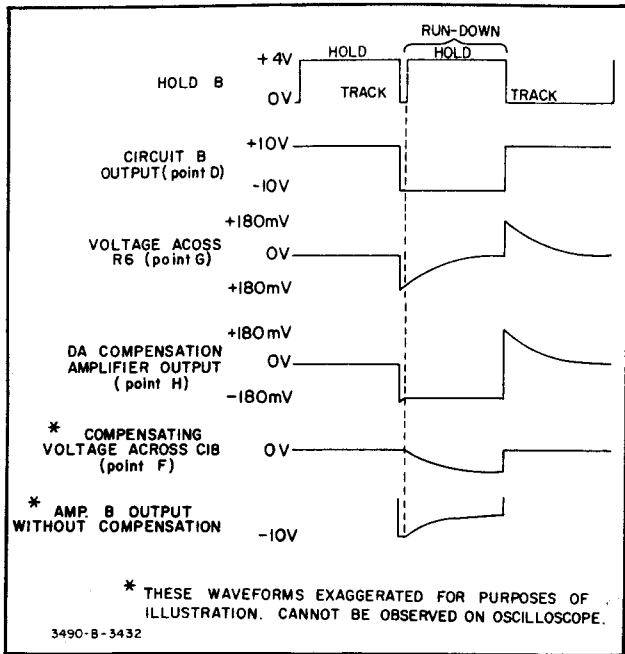

Figure 4-26. Dielectric Absorption Compensation.
4-225. Compensation for Dielectric Absorption. To prevent deterioration of the Sample/Hold output signal due to dielectric absorption, an amplifier circuit is used between the output of Circuit B and the non-inverting input to the integrator portion of this circuit (points D and F in Figure 4-25). The waveforms in Figure 4-26 help to illustrate the action of the Dielectric Absorption (DA) Compensation circuit. During the Track Mode, S5 and S6 (Figure 4-25) are closed. Any change in the output voltage at point D causes current to flow through the rc circuit R34, C16 and R6. This current decreases as C16 assumes the new voltage. The resulting voltage across R6 is applied to C11 and the DA Compensation amplifier input. When a Hold B command occurs, S5 opens and the voltage across C11 remains at the level present at that moment. S6 also opens at this time, allowing C18 to begin charging slowly toward a voltage proportional to the charge on C11. The compensating voltage at point F is the voltage developed across C18. As the time increases between a voltage change at the integrating capacitor and the Hold B command, the need for compensation decreases, and the compensation provided also decreases.